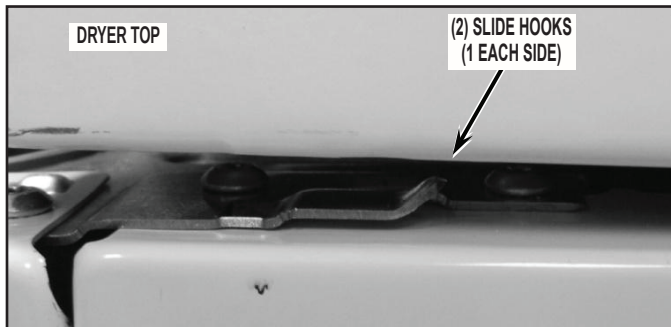

FIGURE 16
2. Slide the top and console assembly forward making sure the top catches the two slide-hooks, one on either side near the front (See *Figure 16*) and reattach the two (2) rear screws. See *Figure 2*.